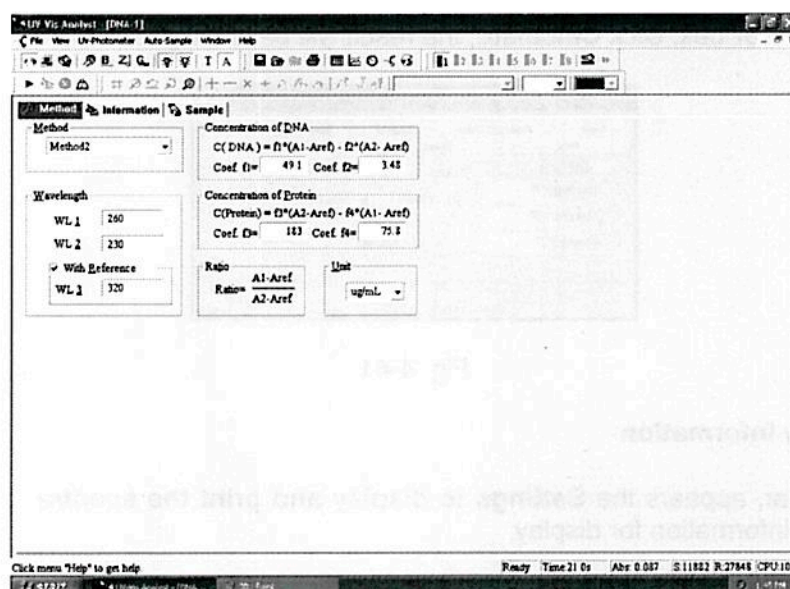

Fig. 4-44
1. Click  on the toolbar, the following dialog box will appear (Fig. 4-44).